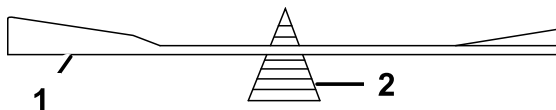

Figure 61
- Check the balance of the blade by putting it on a blade balancer (Figure 61).